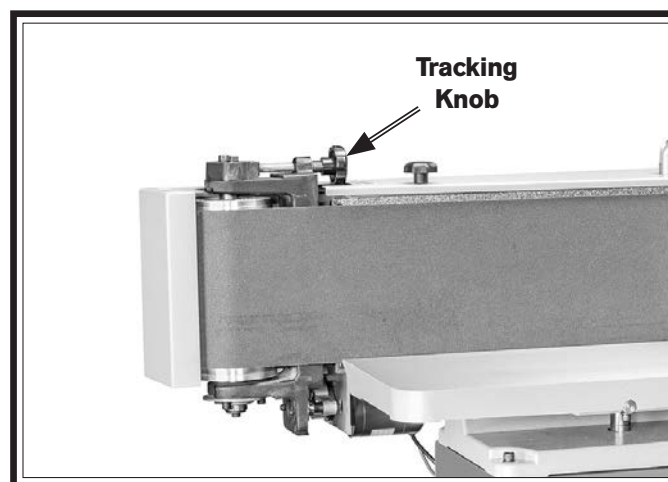

Figure 28. Location of tracking knob.
5. Turn tracking adjustment knob clockwise to adjust tracking upward or counterclockwise to adjust tracking downward (see **Figure 28**).